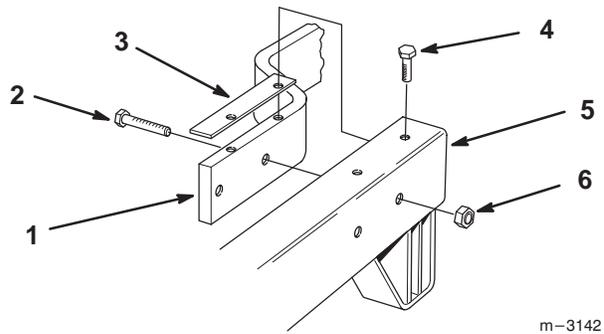

Figure 2
1. Place shims on top of traction unit lift arms. Align the carrier frame holes with the mounting holes in the traction unit lift arms (Fig. 2).
2. Fasten each side of the carrier frame to the traction unit lift arms with (2) 3/8"- 7/8" (22 mm) bolts from the top and (2) 3/8"- 1-3/4" (45 mm) bolts and 3/8" locknuts from the side (Fig. 2).